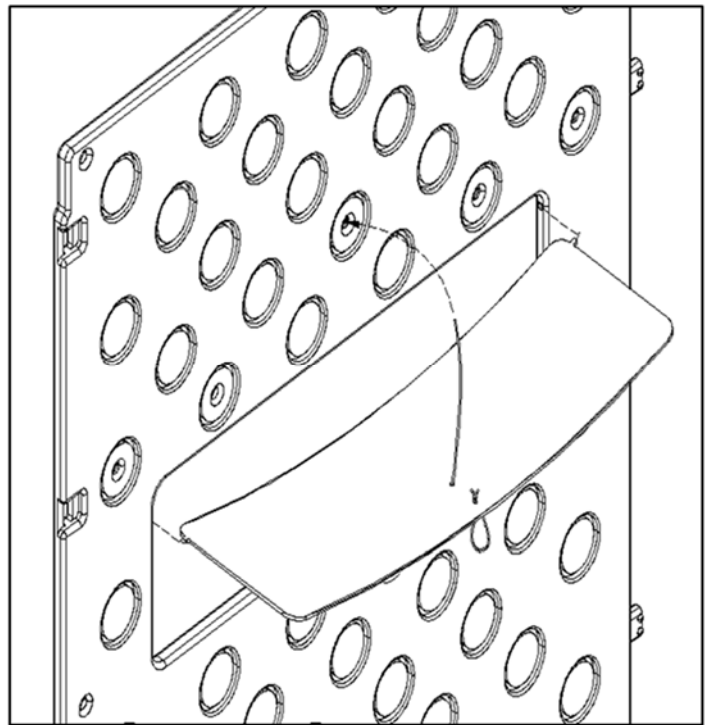

Fig 2 – Insert Window
- Step 2.** Facing the outside of the panel (the side with the logo), hold the window with the tabs at the top, the long cord facing up and the short loop at bottom facing down. Gently bend the window enough to insert the tabs on the window into the two holes located on each side of the window opening (see fig 2).
- Step 3.** With the window inserted, insert the long cord through the predrilled hole located over and center of the window (see fig 2). From the inside of the panel, attach the ball stop to the end of the cord. Adjusting the ball stop along the cord will allow you to adjust the extent of the opened window. The lower inside loop and knob allow you to secure the window in the closed position.